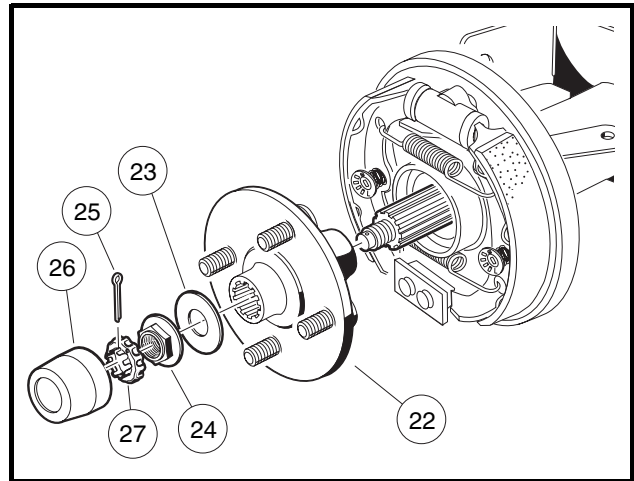
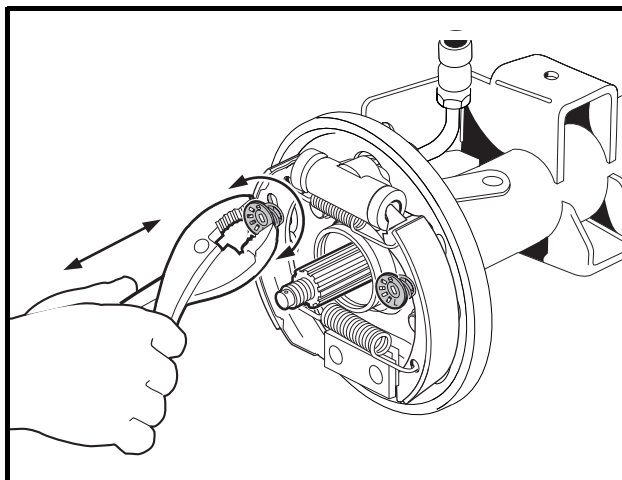

Figure 6-5 Rear Wheel Bolt Flange Assembly
Figure 6-6 Rotate Rear Spring Cups
NOTE: It is recommended that the wheel bolt flange (22) be removed prior to brake shoe removal (Figure 6-5, Page 6-9).
2. Remove rubber boot (26), large flat washer (23), cotter pin (25), and locking cap (27) (Figure 6-5, Page 6-9).
3. Remove the flanged nut (24) and large flat washer (23) from the axle end.
4. Slide the wheel bolt flange (22) off of the splined axle end.
5. Use pliers or a brake tool to rotate the cup washer and compression spring assembly 90° and remove the cup and spring from each brake shoe (Figure 6-6, Page 6-9).
2. Compress the spring with the cup washer (12) onto the pin of the adjuster assembly (3) (**Figure 6-19, Page 6-21**) and rotate 90° to secure the brake shoe (**Figure 6-6, Page 6-9**).
- 8.1. Slide wheel bolt flange (22) onto splined axle (**Figure 6-5, Page 6-9**).